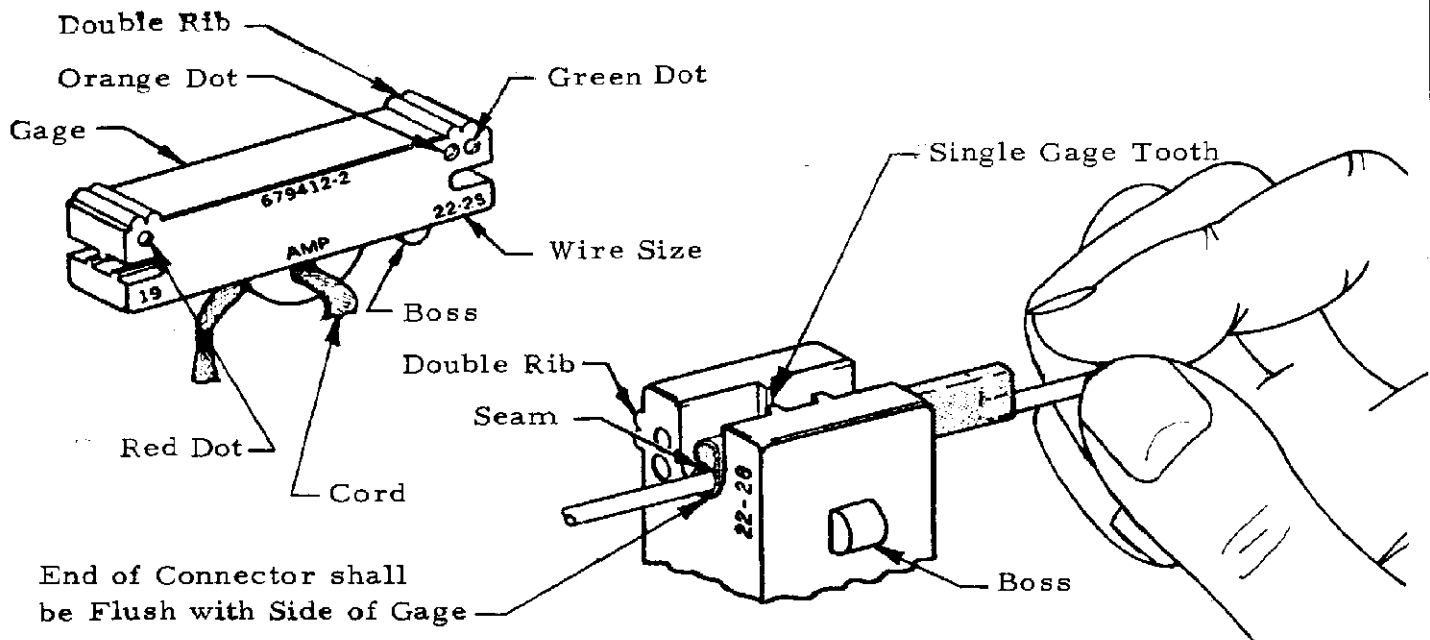

Figure 3
- A. Crimp height shall be checked using AMP gage PN 679412-2 supplied with each tool and measured as indicated in Figure 3. This gage is available from AMP Incorporated by ordering kit PN 22930-1 which is gage PN 679412-2 with a cord attached.
- (1) Select gage end with color dot that matches connector color (green, orange or purple connector located in end with boss; red or yellow located in end without boss).
- (2) Insert connector so that seam of connector faces single gage tooth and double rib (external) on gage. Connector end shall be flush with side of gage.
- (3) Hold free end of connector and slide gage off using very slight force. Repeat on other end of connector; little or no drag should be felt.
- (4) If either end sticks in gage, it is improperly crimped and shall be replaced.